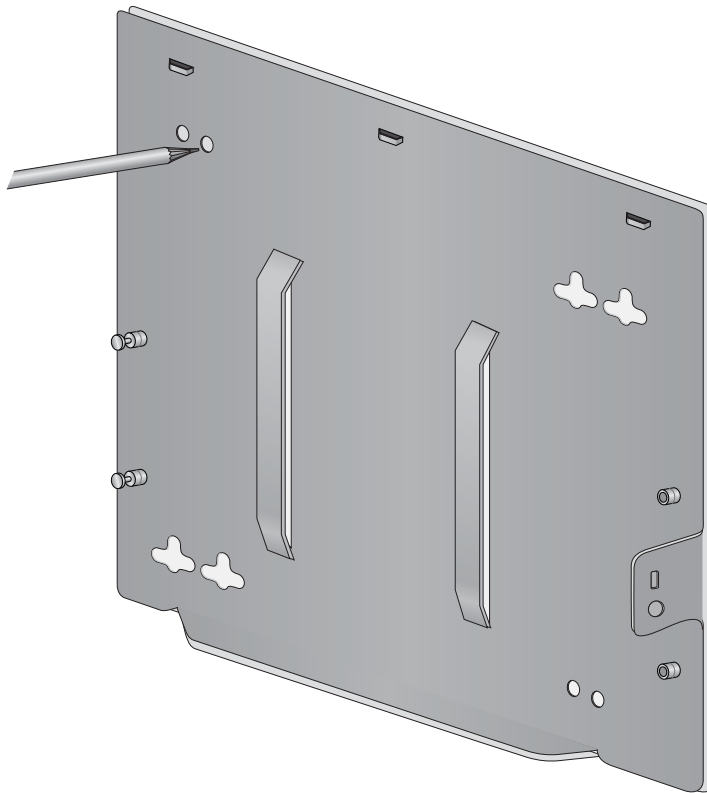

Figure 16. Marking the Locations of the Bottom Panel Holes on the Wall or Ceiling
1. To install wall anchors, hold the bottom panel at the selected wall or ceiling location and with a pencil or pen mark the locations of the four screw holes that are to be used to secure the panel. Refer to Figure 16.